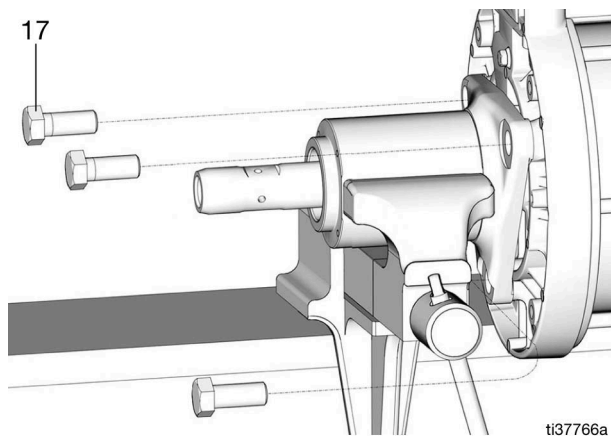

FIG. 14
- Loosen and remove the three outlet housing adapter screws (17) using a 15/16 in. wrench (FIG. 14).